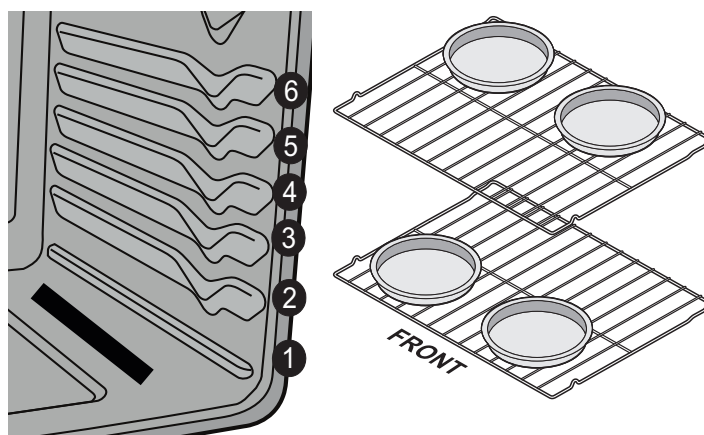

Figure 13: Suggested pan placement for best results.
- For best results when baking layer cakes using two oven racks, place racks in positions 3 and 5 and place pans as shown in Figure 13.